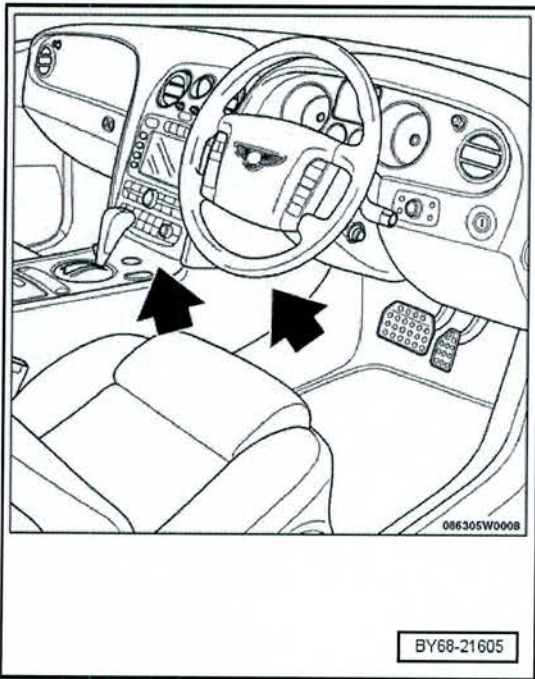

Figure 1
3. Note the front centre console is secured to the dashboard by two side buttons and two screws located under the facia panel, arrows figure 1